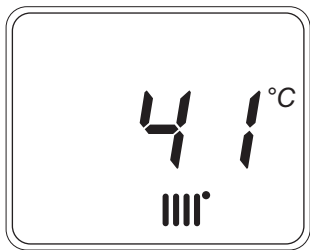

Fig. 22
4. Normally the display will show the current temperature of the water in the boiler (e.g. 41°C, Fig. 22). As the knob is turned the display will show the selected curve (Fig. 23).